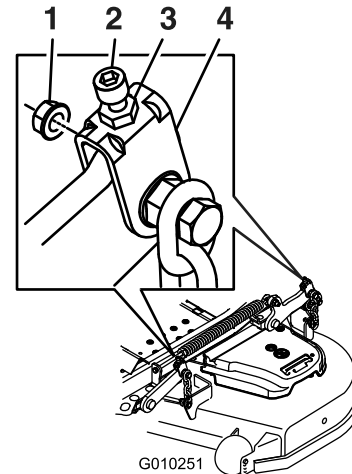

Figure 86
10. If needed, loosen the whizlock nut on the side of the yoke and the jam nut on top. Fine tune the screw adjuster by turning it to get 7.6 mm (3 inch) height (see Figure 86).
16. Fine tune the screw adjuster by turning it to get 8.3 mm (3-1/4 inches) height (Figure 86).